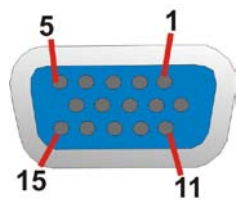

Figure 3-33: VGA Connector
- CN Pinouts: See **Figure 3-33** and **Table 3-32**